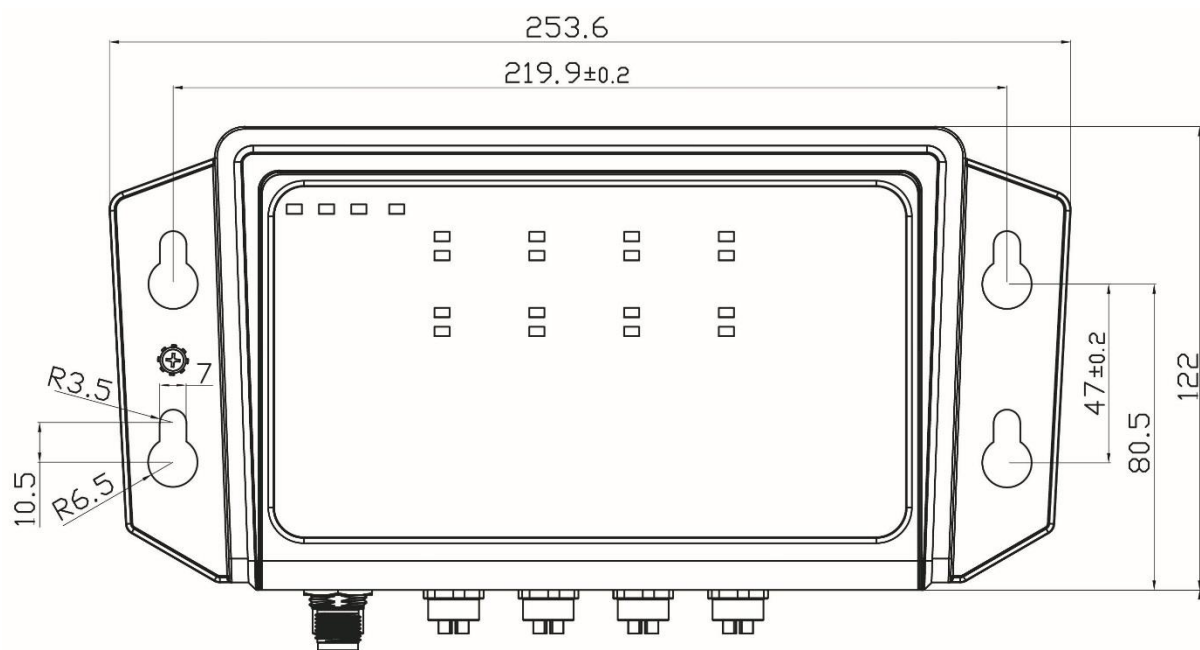

Figure 3.2
2. Based on the *Figure 3.2*, on the following page, which shows the positions of 4 screw holes on the left and right side of the switch, make 4 screw holes on a wall accordingly.